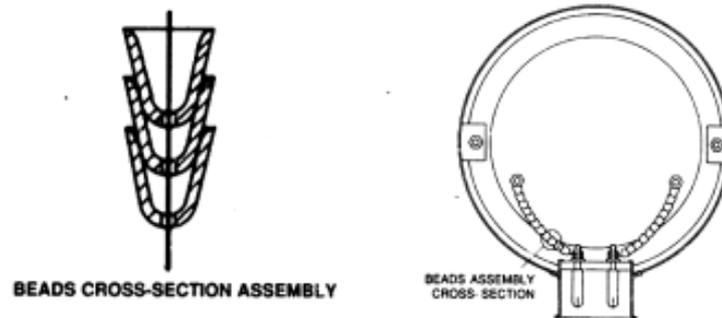

Fig. 8.3 - Connecting leads
**Connecting leads:** The lead wires should have a larger cross-section made of bare copper, insulated with porcelain beads or glass beads. The beads are connected to the socket terminals and heater plate terminals, as shown in Fig. 8.3.